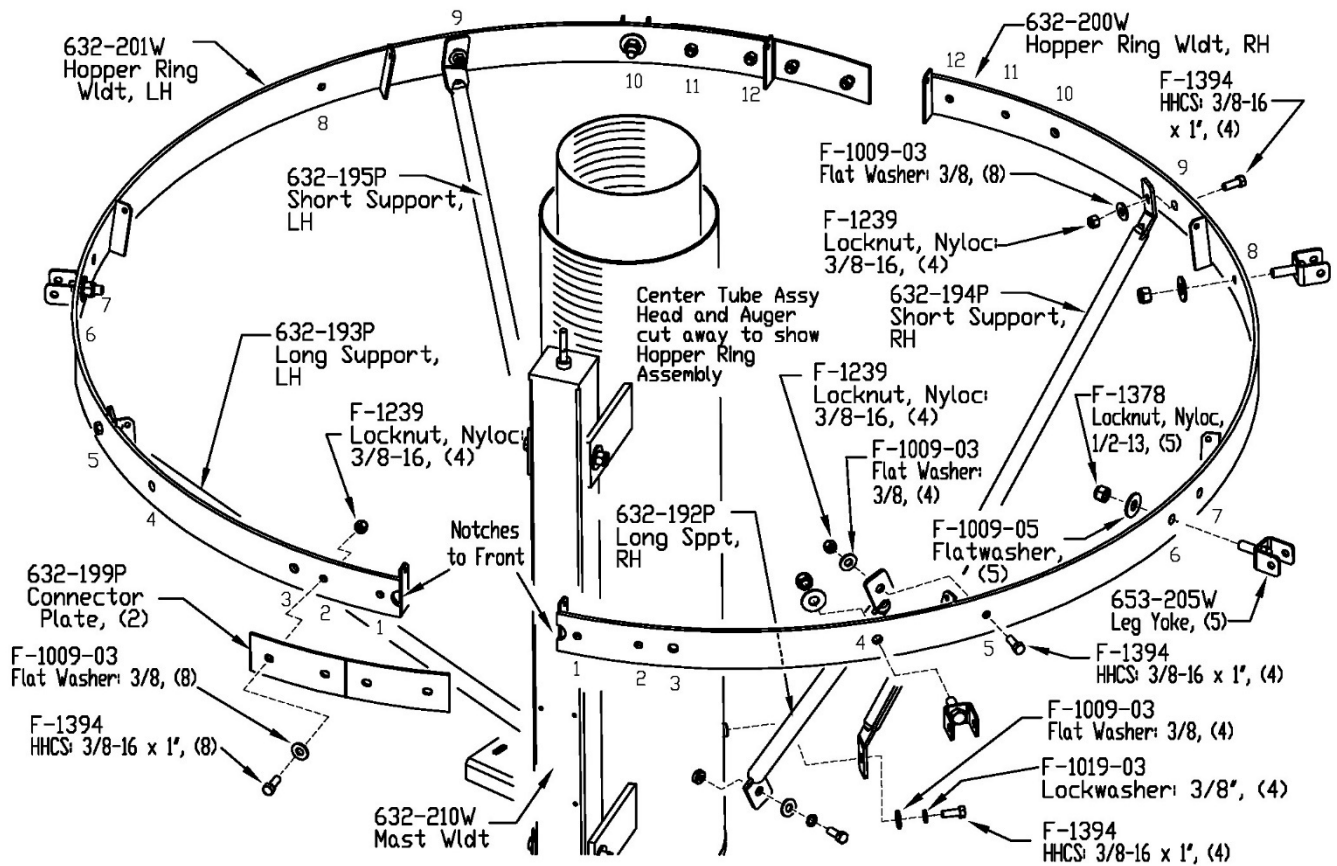

Fig 7.5a
- └ 632-125A     Hopper Assembly Parts Sack, (1)
- └ 632-199P     Hopper Ring Plate, (2)
**7d. Install Support Rods:** Using hardware from 632-125A Hopper Assembly Sack, attach the Bottom ends of the Support Rods to Center Tube Assembly. While installing the Support Arms, pay attention to Tops and Bottoms, RH and LH, and Short and Long. Tighten the bolts enough that the Support Rods will remain upright. Using the 632-199P Connector Plates, assemble the two Hopper Ring Weldments around the Center Tube Assembly with the tabs up. (See Fig 7.5a).